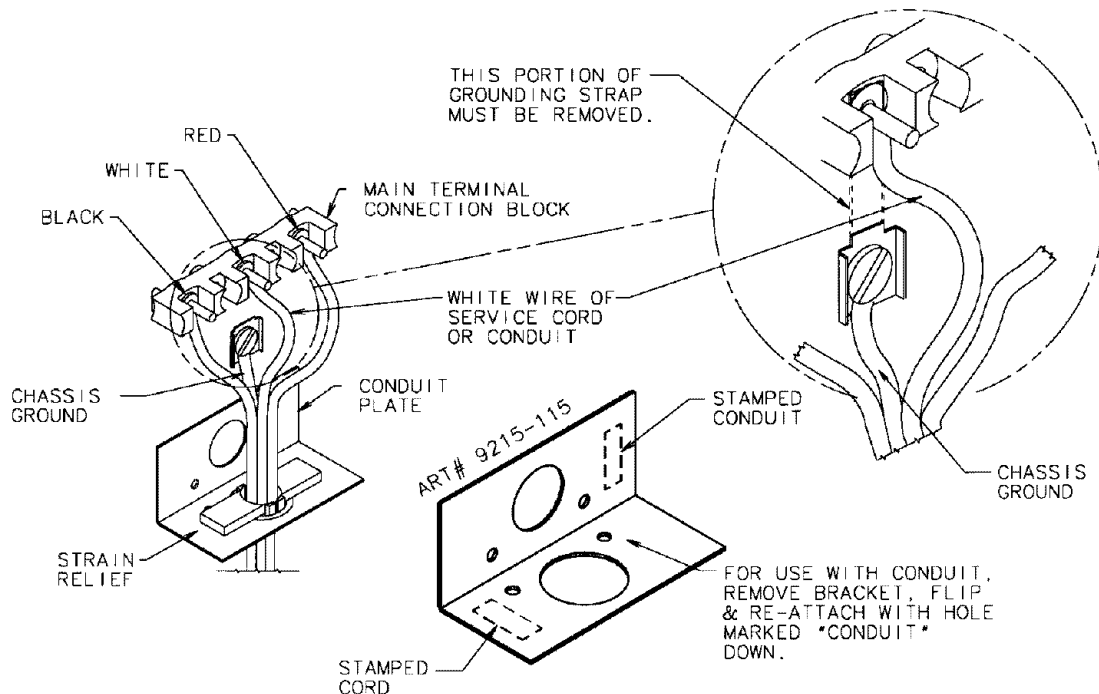

FIGURE 9
1. The copper ground strap connected between the neutral (middle) post of the main terminal block and the chassis **MUST** be cut off as shown in figure 9. Save the green ground screw to attach the ground from the 4 wire cord. Only a 4 wire cord or conduit should be used.
Disconnect range from power. Remove the access cover on back of range and remove the 3-wire service cord from the main terminal block. Follow instructions as outlined in figure 9 to connect the 4-wire service cord.